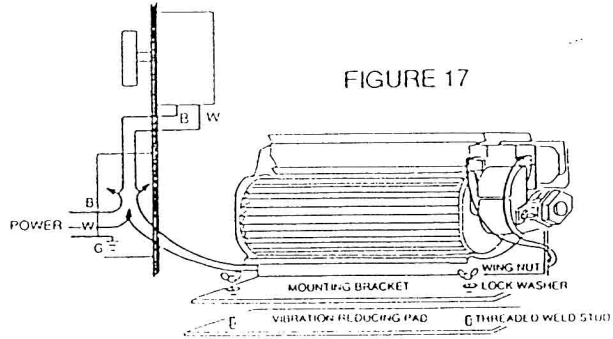

FIGURE 17
**INSTALLATION OF THE BLOWER AT A LATER DATE WILL REQUIRE THE GAS TO BE DISCONNECTED FROM THE FIREPLACE (Fig. 17).** Complete installation instructions are included with the blower assembly.